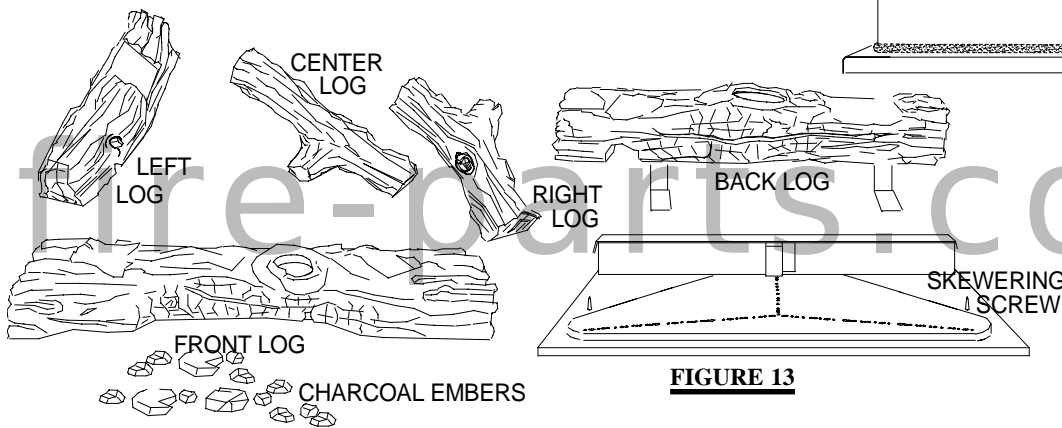

FIGURE 13
2. Place the back log onto the log support brackets located on the rear wall of the combustion chamber. The notch situated at the lower left of the back log should be centered evenly above the pilot assembly. **FIGURE 13.**